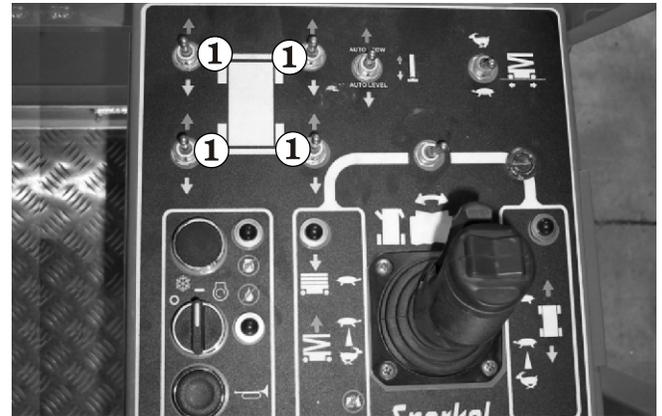

Figure 8.11
2. Pull and hold the **Stabiliser switches ①** (see Figure 8.11) backward, one at a time, until all four stabiliser pads ② (see Figure 8.12) contact the ground.